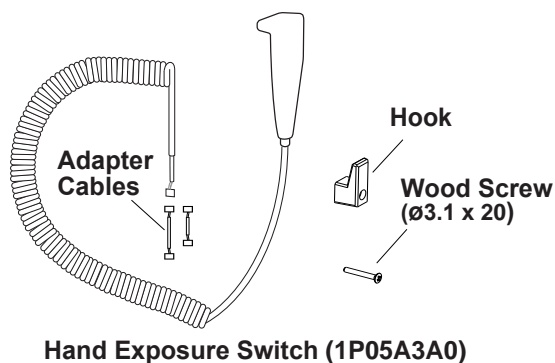

Fig.3-23 Hand Exposure Switch Kit
1. Confirm the hand exposure switch kit contains: a hand exposure switch, two adapter cables, a hook and a screw for hook (ø3.1 x 20 mm). (**Fig.3-23**)
2. Connect the red adapter cable (longer cable) to the connector of the hand exposure switch. (**Fig.3-23**)